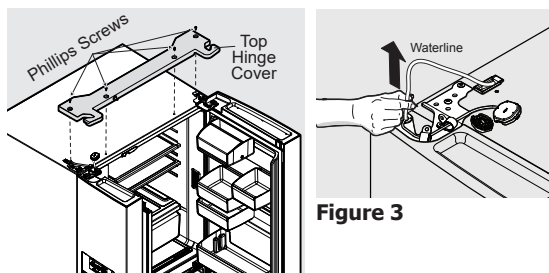

Figure 1
1. Remove screws from top hinge cover and lift up. See Figure 1.
2. Remove the screw and the bottom hinge cover. See Figure 1.